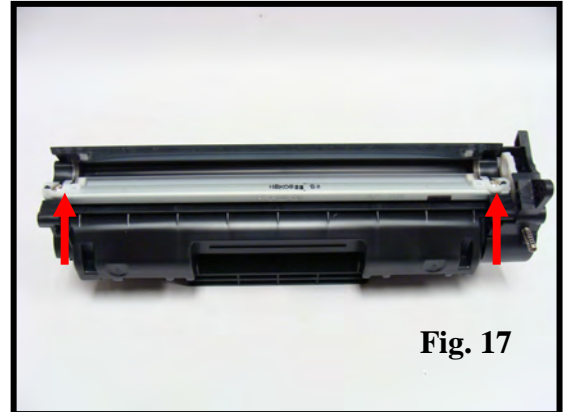

Fig. 17
17. Remove two screws and the plastic mag scrappers from the doctor blade (Fig. 17).